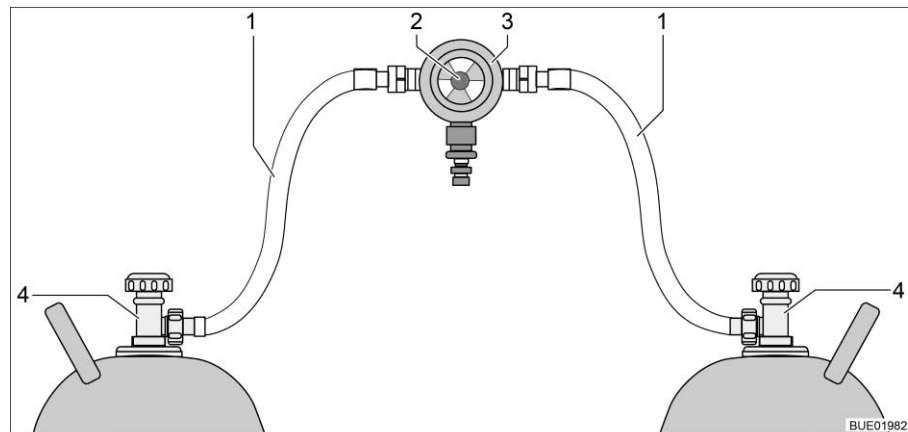
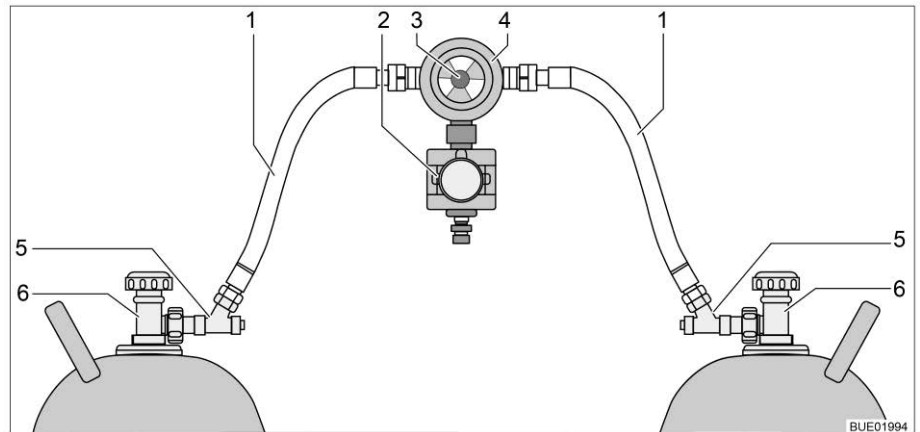

Fig. 132 Gas bottle switching facility
Fig. 133 Gas bottle switching facility with CPU
The gas bottle switching facility consists of a combined gas pressure regulator with reversing valve and indicator (Fig. 132,3). The gas bottle switching facility is installed between the two gas tubes (Fig. 132,1).
The gas bottle switching facility consists of a combined gas pressure regulator with reversing valve and indicator (Fig. 133,4), and an electrovalve (Fig. 133,2). The electrovalve blocks the gas supply to the vehicle in the event of a full braking, an accident, or an unusually great inclined position. The gas bottle switching facility is installed between the two gas tubes (Fig. 133,1) with hose break guards (Fig. 133,5).
Use the knob (Fig. 132,2 or Fig. 133,3) on the gas bottle switching facility to select which of the gas bottles is to be used as a primary bottle and which is to be used as a reserve bottle.
Only the electrical functions can be switched at the operating unit (Fig. 134). The regulator taps on the gas bottles (Fig. 132,4 or Fig. 133,6) must be opened and closed manually.
- Open the regulator taps of the gas bottles (Fig. 132,4 or Fig. 133,6).
- Press the hose break guards (Fig. 133,5) successively for 10 seconds.
- Use the knob (Fig. 132,2 or Fig. 133,3) on the switching facility to select the gas bottle which is to be the primary source of gas (primary bottle). Always turn the knob as far as it will go.
- Close the regulator taps of the gas bottles (Fig. 132,4 or Fig. 133,6).